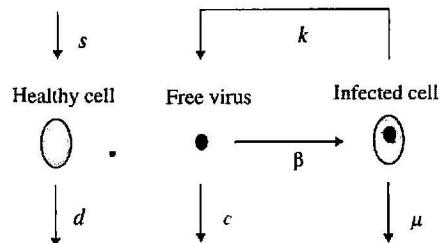

FIGURE P2.40 (© 2004 IEEE)
68. **Control of HIV/AIDS.** HIV inflicts its damage by infecting healthy CD4 + T cells (a type of white blood cell) that are necessary to fight infection. As the virus embeds in a T cell and the immune system produces more of these cells to fight the infection, the virus propagates in an opportunistic fashion. As we now develop a simple HIV model, refer to Figure P2.40. Normally T cells are produced at a rate s and die at a rate d . The HIV virus is present in the bloodstream in the infected individual. These viruses in the bloodstream, called *free viruses*, infect healthy T cells at a rate β . Also, the viruses reproduce through the T cell multiplication process or otherwise at a rate k . Free viruses die at a rate c . Infected T cells die at a rate μ .